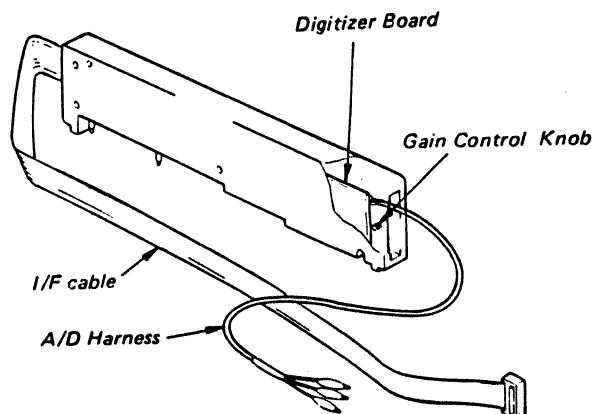

Fig. 2-7 Digitizer Configuration
(1) Digitizer configuration (Refer to Fig. 2-7)